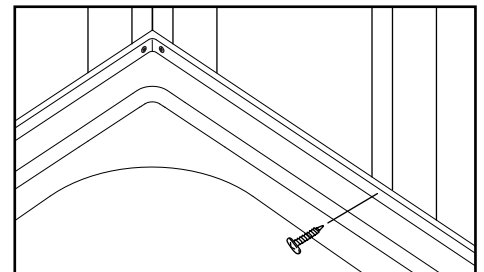

FIGURE 4. Run a screw through bathtub flange at each stud location.
- If alcove is larger than bathtub, shim between bathtub and studs to create a tight fit. After bathtub is leveled, verify that all bathtub feet make contact with the sub-floor and/or shims. Screw bathtub flange to all studs (Fig. 4).